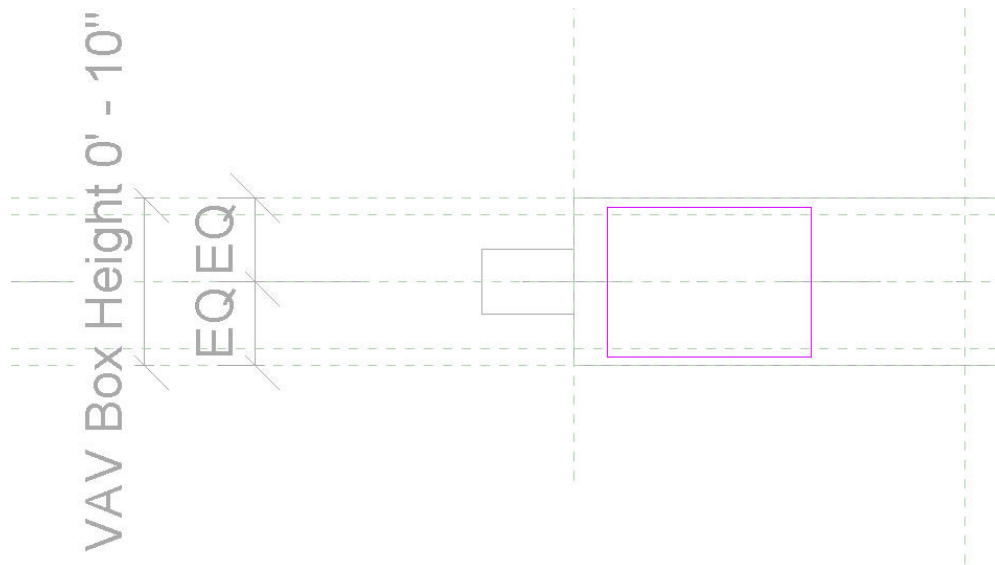

Figure 40. Creating the Control Box sketch.
6. Navigate to the **Front** Elevation view. Create a sketch rectangle similar to Figure 40. Note that the rectangle is *not* co-linear with any existing geometry.